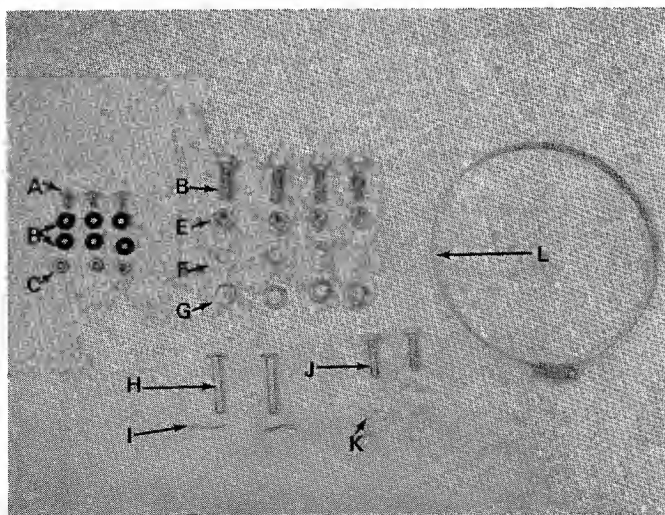

FIGURE 1
8. Hardware pack. (See figure 1).